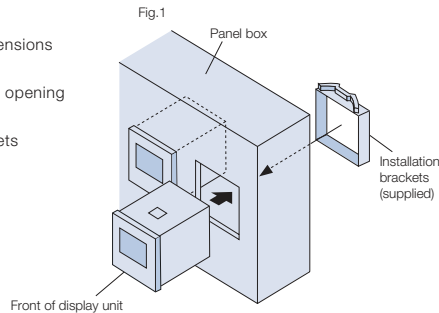

Fig.2 Cut-out dimensions
1. Cut out an opening to match the dimensions shown (Fig.2)